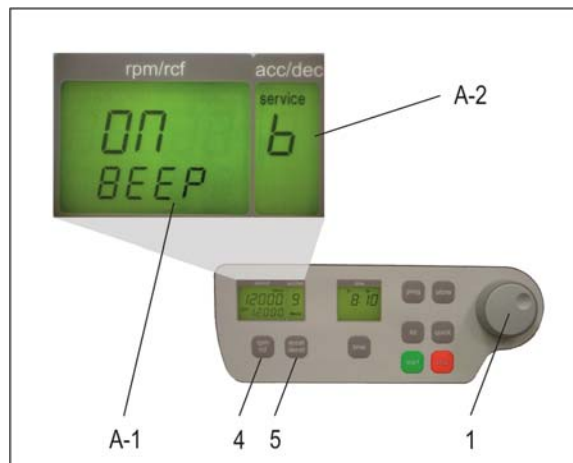

Figure 8
Proceed as described under point 1.8.2 to enter this program mode and then press the key „accel/decel“ (5). In the display „accel/decel“ (A-2) flashes the word „service“. Now select the letter „b“ with the adjusting knob (1). As a result appears in the display „rpm/rcf“ (A-1) the word „ON/BEEP“. After pressing the key „rpm/rcf“ (4), you can turn the keyboard sound (On) or (Off) with the adjusting knob (1). (see figure 8).